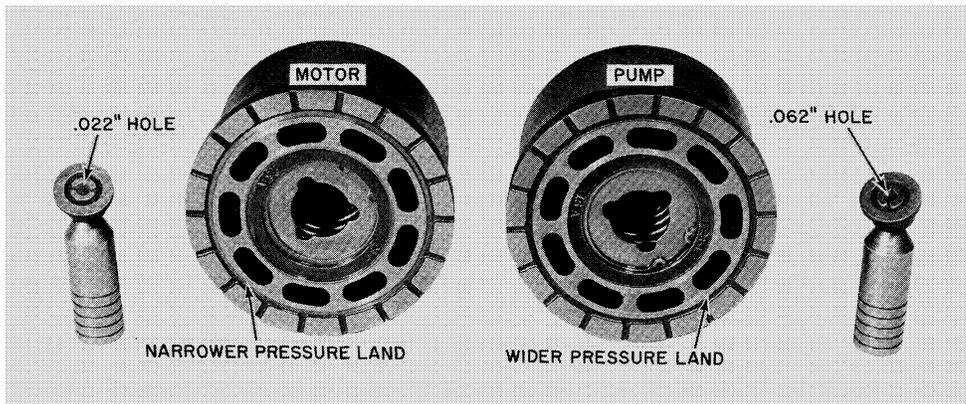

FIGURE 23
13. The cylinder blocks and piston shoe sub-assemblies of the motor and pump are shown side by side in Figure 23. There is a slight difference in the dimensions of the kidney-shaped ports in the cylinder block face. The pump lands are wider than the motor lands. Also, the holes through the center of the piston shoes on the pump pistons are a little larger than those on the motor.